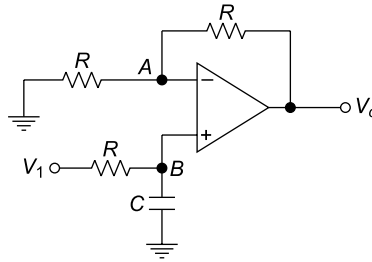

Fig. 5.37 Circuit of Ex. 5.17
5.17 Prove that the output voltage of Fig. 5.37 is $V_o = \frac{2}{CR} \int V_1 dt$